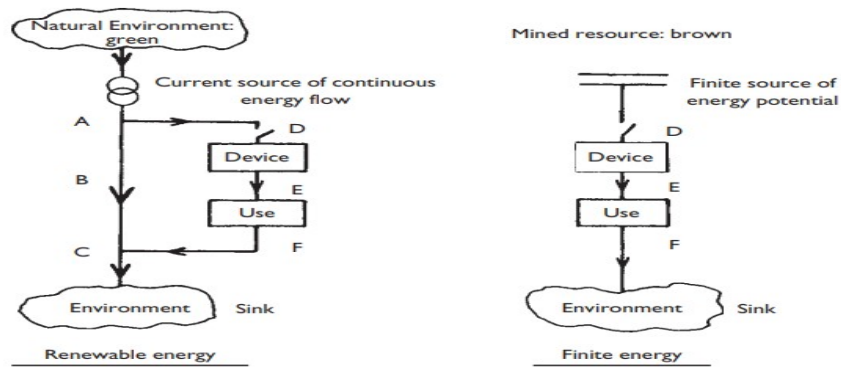

Figure 1.1 Contrast between renewable (green) and finite (brown) energy supplies. Environmental energy flow ABC, harnessed energy flow DEF.
- Thus a renewable energy device must be matched dynamically at both D(Supply) and E(Demand) Figure 1.1; the characteristics will probably be quite different at both interfaces.
<p>Figure 1.1 Contrast between renewable (green) and finite (brown) energy supplies. Environmental energy flow ABC, harnessed energy flow DEF.</p>